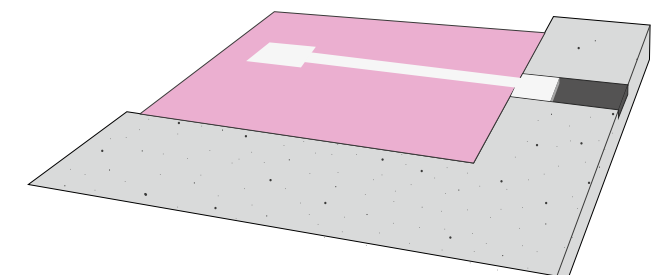

Fig. 15
5. Place polystyrene where your pipework will be positioned and level the excavated area with a self-levelling compound (Fig. 15) to the required height (see Section 5).